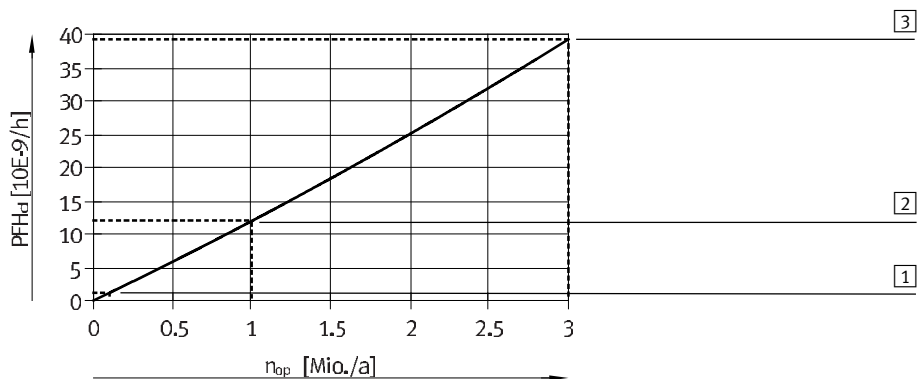

Fig. 11 PFH_d value as a function of the average number of actuations per year n_{op}
Characteristics <ul style="list-style-type: none"> – max. achievable category – max. achievable Performance Level – service life characteristic B_{10} – diagnostic coverage (DC) – probability of an endangering failure per hour (PFH_d) – duration of use T_M – proven component 	4 PL e 10 million switching cycles 99 % if the logic operation of the control signal and the signal change of the proximity sensor (expectation) is checked with each actuation of both solenoid valves → Tab. 6 and Fig. 11 20 a Yes
The control block is a two-channel subsystem. The characteristic values for safety engineering (→ Tab. 5) apply for each channel. The PFH_d value of the subsystem (→ Tab. 6 and Fig. 11) can be calculated, for example, with SISTEMA²⁾ using the following values: